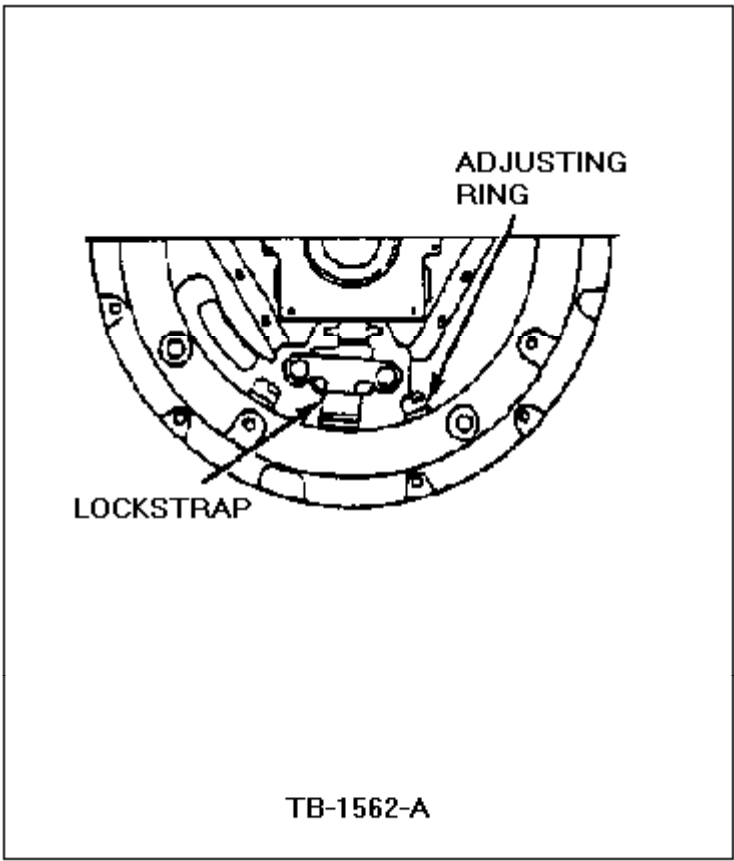

Figure 3 - Article 90-5-17
2. Remove the lockstrap and turn the adjusting ring as shown in Figure 3.